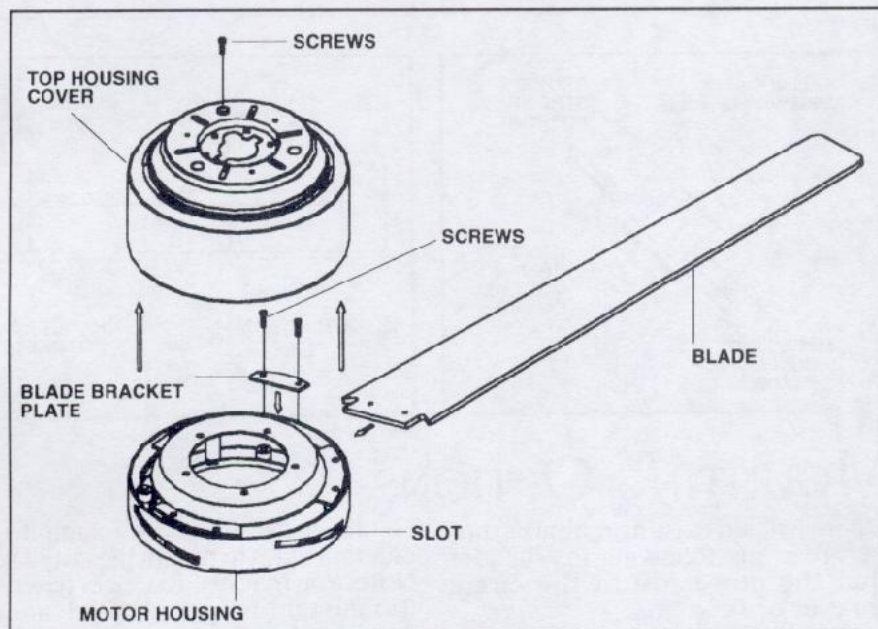

FIG. 5
**Step 2.** Remove the six screws from the Top Housing Cover and lift off along with the coupling washer. (Fig. 5)
**Step 3.** Insert the Blade through the slot in the Motor Housing. Align holes in Blade and motor, place the Blade Bracket Plate over blade making sure the holes are also aligned and secure with two screws. Repeat process with the other Blades. (Fig. 5)
**Step 4.** Re-install the Top Housing Cover and motor coupling washer, secure with only the three screws previously removed from the motor coupling. Save the remaining three screws for later. (Fig. 5)